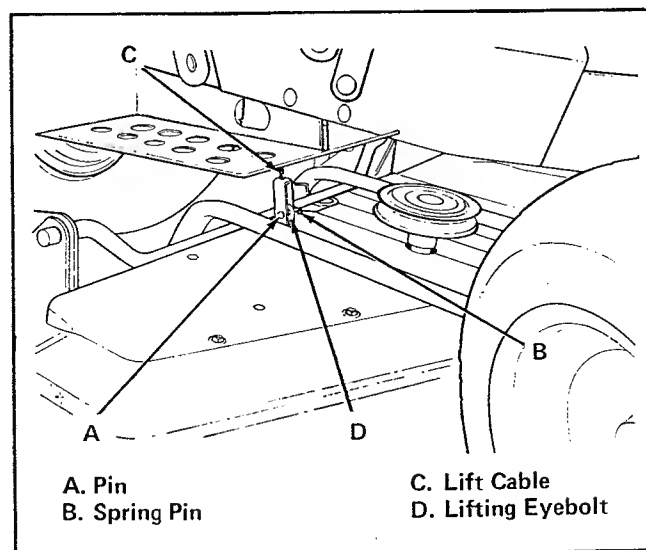

Figure 7. Attach Tractor Lift Cable
4. Use pin (item A, figure 7) and spring pin (B) to attach tractor lift cable (C) to lifting eye-bolt (D) on mower.